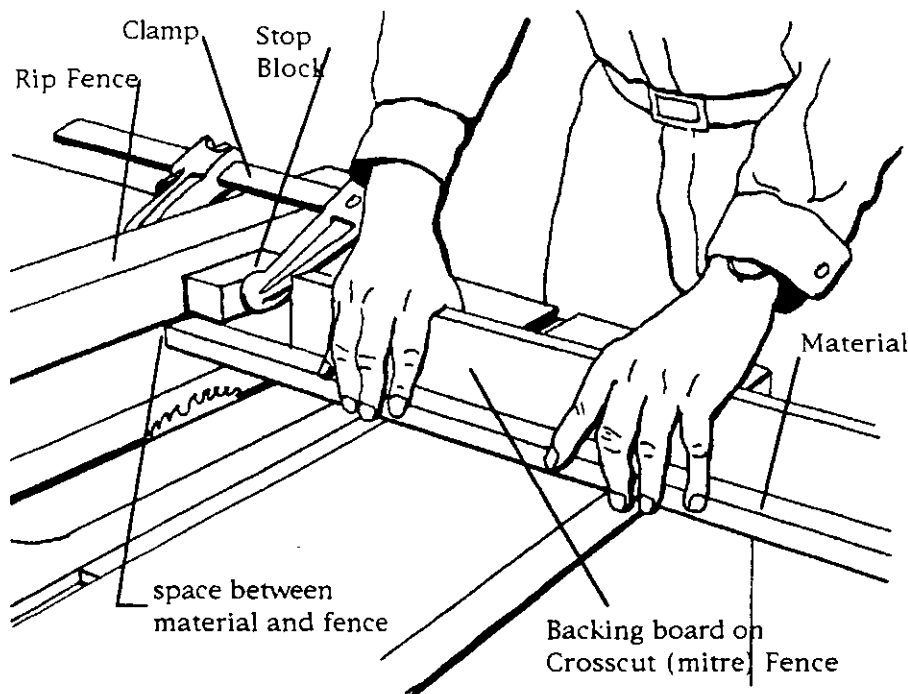

Fig. 62 - Crosscut
through the blade. The safer way is to treat these cuts as crosscuts, and to use a crosscut fence with a backing board which supports the bulk of the material up to the blade. A similar setup is illustrated in Fig. 62. The unsupported offcut is allowed to go free and uninterrupted.
**If you must use the table saw for crosscuts, use the crosscut fence only. If making multiple cuts, clamp a stop block to the table, and be certain that the material clears the stop block before it enters the blade. (see Fig. 62)**